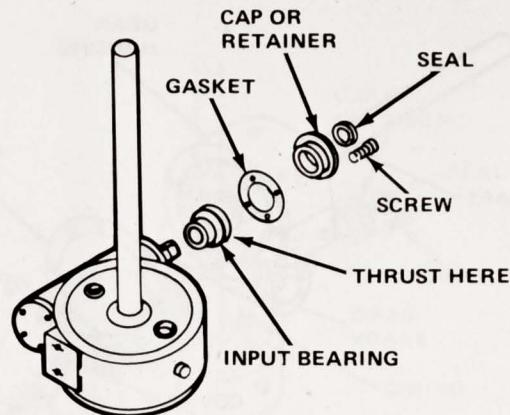
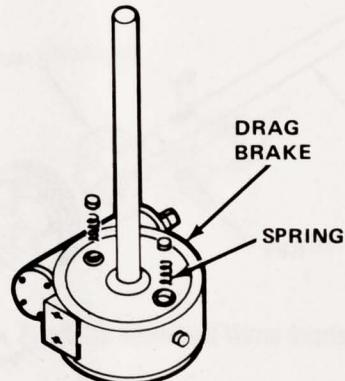
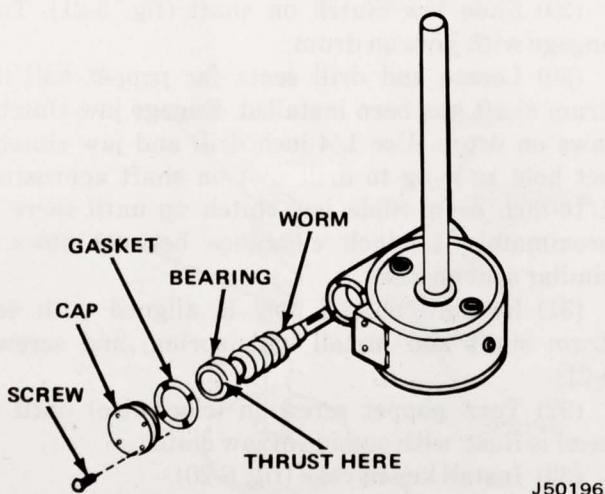

Fig. 5-33 Installing Input Bearing and Cap
Fig. 5-34 Installing Poppet Brakes
Fig. 5-32 Installing Worm
(12) Fasten cover in place with capscrews. Tighten capscrews evenly.
(13) Turn drum shaft in housing. It should spin freely. Add another gasket under cover if it is tight or binds.
(14) Install bearing on short end of wormshaft (fig. 5-32).
(15) Insert worm in gear housing and press bearing (installed on worm) in place. Be sure bearing is down against shoulder in housing.
(16) Mount gasket to cap.
(17) Install cap on housing using capscrews. Tighten capscrews evenly.
(18) Press input bearing into gear housing (fig. 5-33).
(19) Press seal into cap.
(20) Mount gasket on cap. Use a seal slip or strip of shim stock wrapped around shaft to protect seal and install cap on housing with capscrews. Tighten capscrews evenly.
(21) Grease face of gear housing and drum shaft with good cup grease.
(22) Install poppet springs in poppet holes of gear housing (fig. 5-34).
(23) Place small daub of grease on one side of each poppet disc brake to keep disc in place while drum is being installed. Place disc on top of springs.